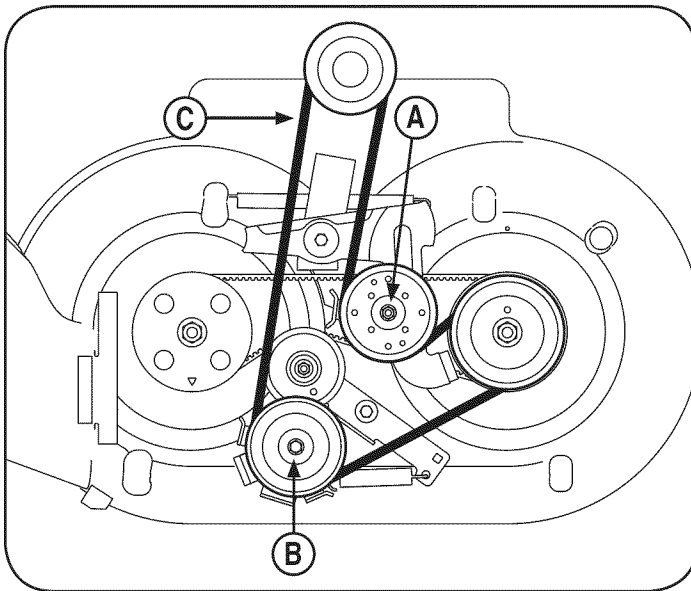

Figure 24
5. Loosen idler pulley (A) by loosening the nut and bolt, Figure 24.
6. Loosen idler pulley (B) by loosening nut, Figure 24.
7. Remove belt (C) from around pulleys, Figure 24.